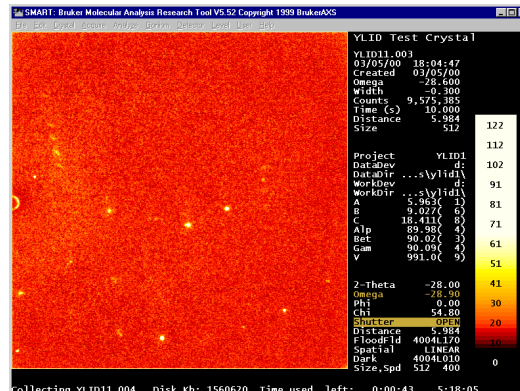

Figure 4-34. Data collection
2. Enter the job name, then press OK to begin data collection (Figure 4-34).